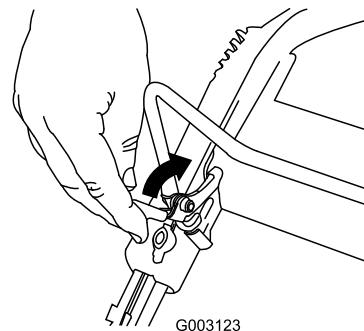

Figure 17
1. Pull the control-bar lock back (Figure 17).
To shut off the engine, press and hold the engine-shutoff button (Figure 17) until the engine shuts off.